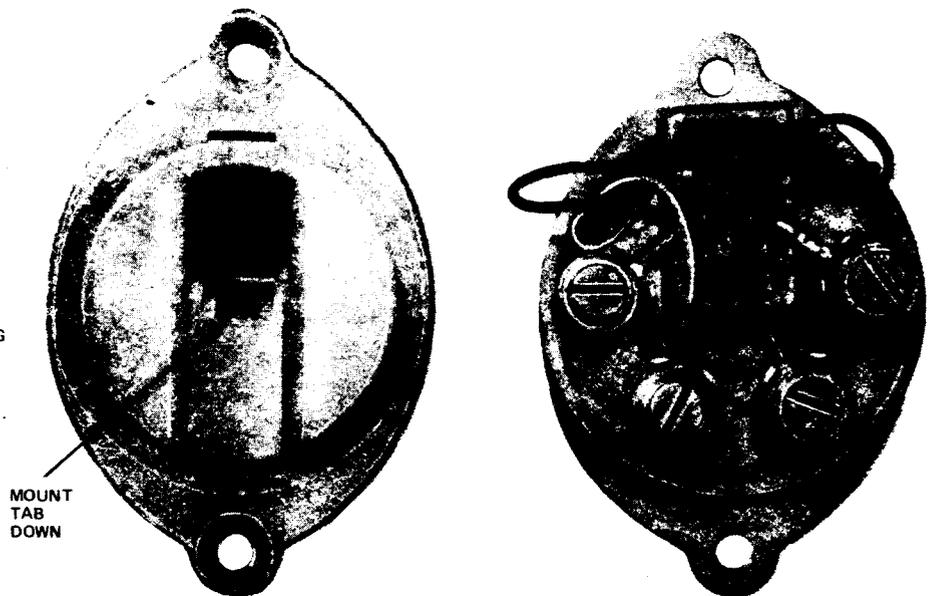

Fig. 8—625F Connecting Block (Without Mounting Hardware)
F. 625F Connecting Block (Fig. 8)
2.08 The 625F connecting block (Fig. 8) consists of a jack and terminal block. It is intended for modular replacement for 548A jack or 47F (MD) connecting block. It is intended for flush mounting. The 65A faceplate and 842615544 mounting bracket used in conjunction with this connecting block must be ordered separately. It is available in ivory (-50) and brown (-54).
3.07 625F Connecting Block: The 625F connecting block (Fig. 8) is intended for use in converting a nonmodular connecting block to modular.